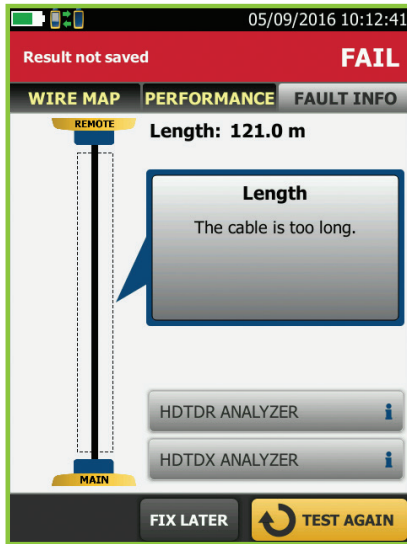
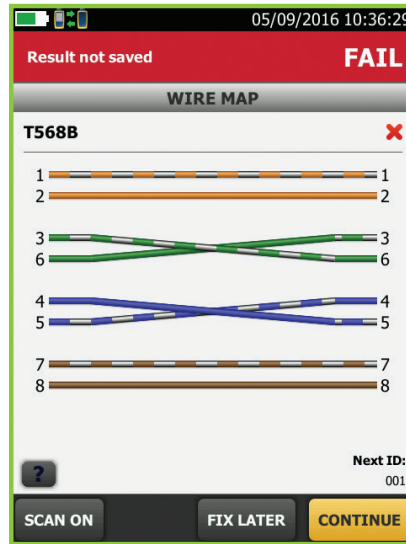
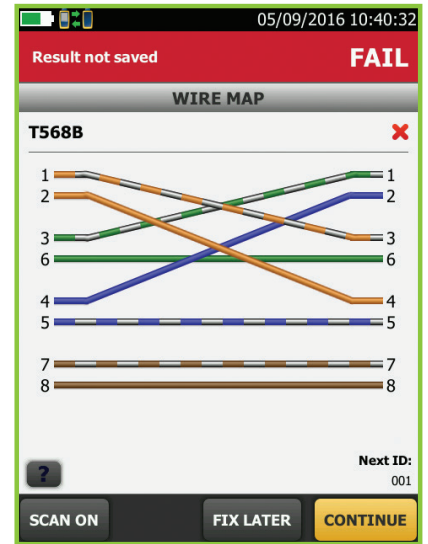

Figure 1
Figure 2
Figure 3
When comparing Cat 5e to Cat 6 and Cat 6A cable, both Cat 5e and Cat 6 fail to deliver the level of reliable performance needed, as shown in the figures below from an industry-standard field-test instrument. All measurements should be completely below the red limit line, which represents power sum alien near-end crosstalk (PSANEXT). The test results for Cat 5e cable (Figure 1) reveals -20dB of AXT margin—fail. This results in a dropped signal for complete video loss. Measurements of Cat 6 cable (Figure 2) are also above the red limit line, indicating the presence of significant alien crosstalk that results in signal degradation or complete video loss. In figure 3, the Cat 6A cable measurement is well below the red limit line pass indicating significant reduction of alien crosstalk and greatly improved signal reliability.
- The actual link distance for comparison with the distance capability of the extender (Figure 1)
- The presence of an incorrectly terminated connector (Figures 2 and 3)